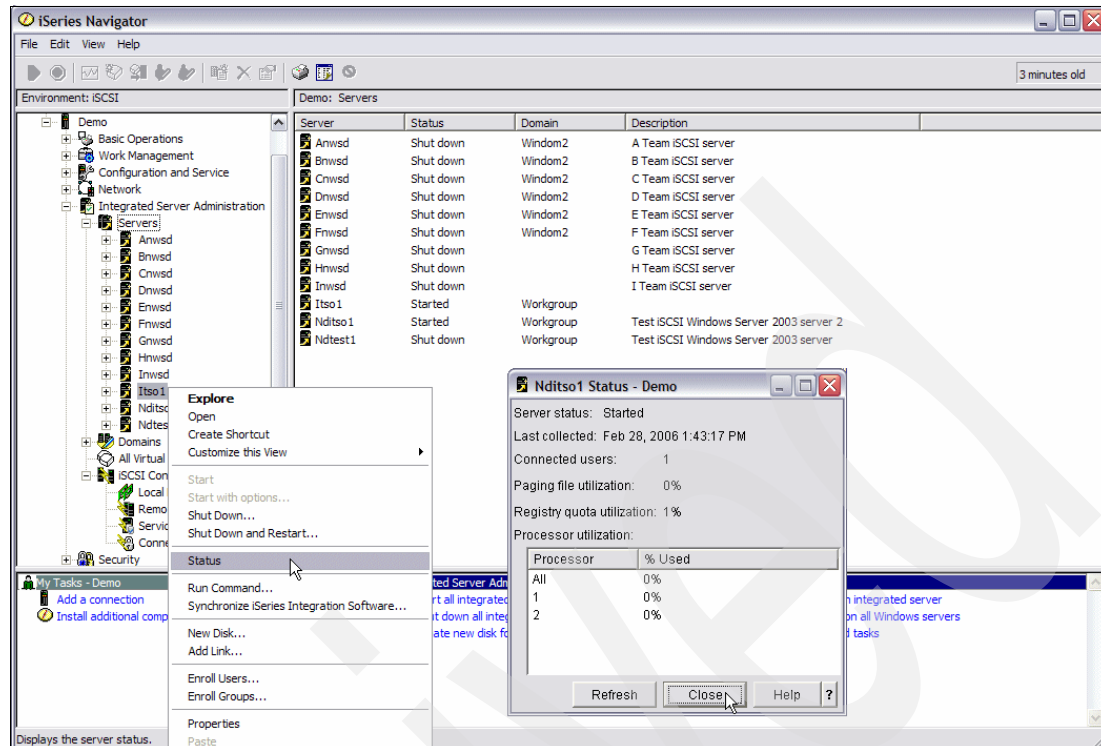

Figure 6-90 Detailed Status of integrated server in iSeries Navigator
2. The integrated servers are displayed under **Servers**. Right-click a server and select **Status**. If it is active, it shows the connected users and so on. If not, it just shows you the status Shut down and a button to go to the System Operator message queue. See Figure 6-90 on page 239.